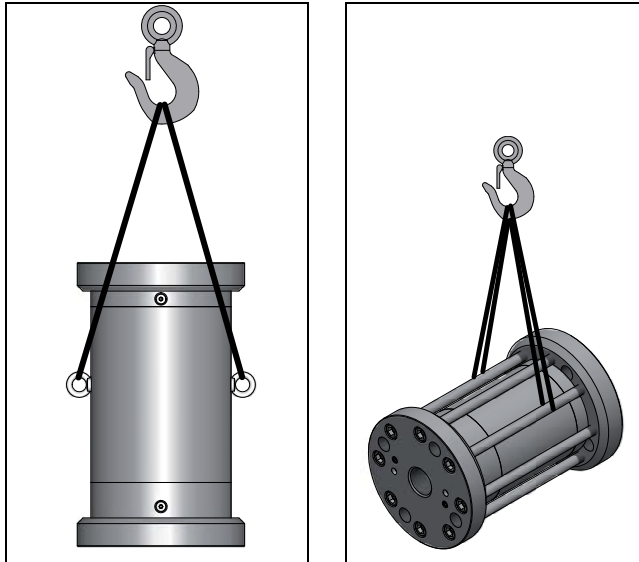

Fig. 1 Attachment of hoisting equipment – schematic diagrams
- ▶ Attach the hoisting equipment to the volumeter, see Fig. 1, page 20, and lift the volumeter.